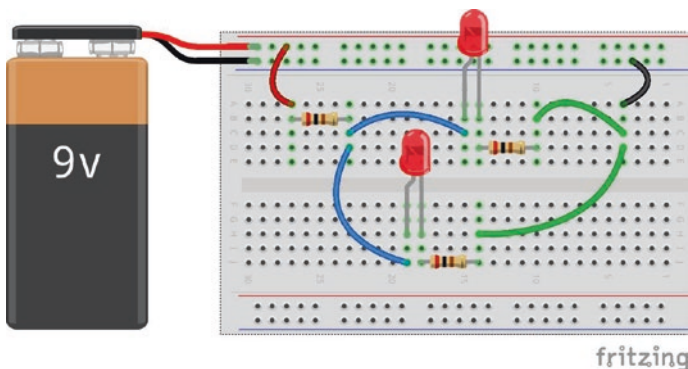

Figure 7-10. *A Circuit with Series and Parallel Components on the Breadboard*
together. This means that, when we have a parallel subcircuit, we connect all of the branches of the subcircuit into the same terminal strip. Figure 7-10 shows what this looks like.
14. Build the circuit in Figure 7-10 on your own breadboard. Measure the voltage drops across every component, and measure the amount of current flowing into the first series resistor.